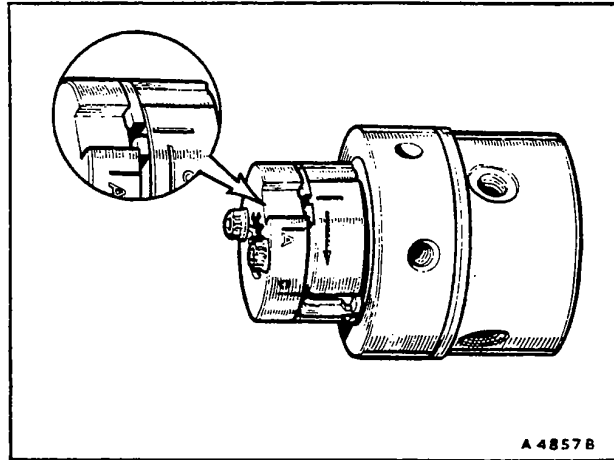

Fig. 1
36. Fit the top adjusting plate and drive plate as shown in Fig. 1.